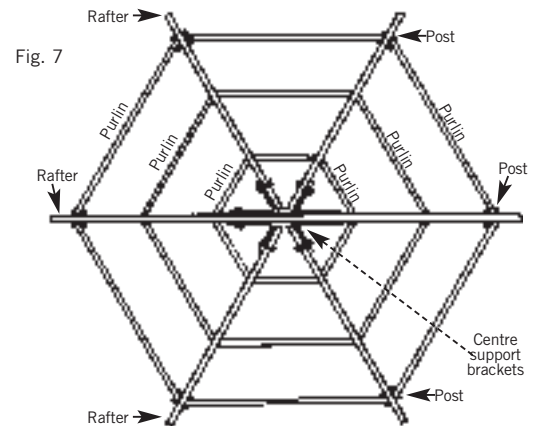

Fig. 7
posts until fully circled as per (Fig. 7). Repeat with smaller purlins as per (Fig. 8). Now that the frame of the roof members are in position, the holes can be filled with a mix of about two (2) shovels of dry cement and earth or concrete mix.